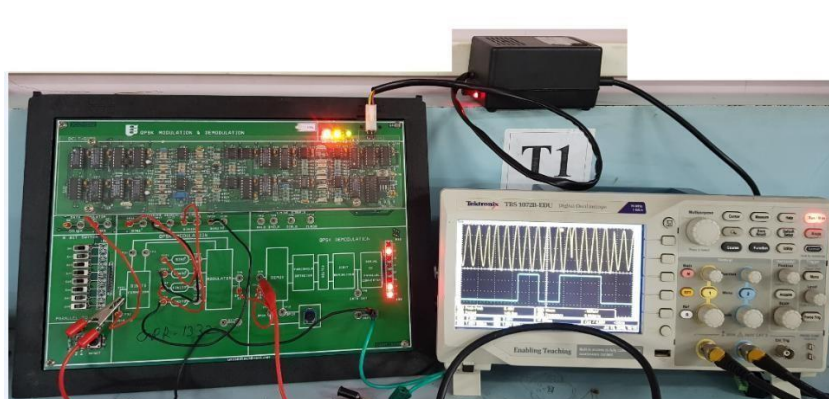

Figure 18.4: QPSK modulator and demodulator practical set up
1. Make the connection as per Figure18.4.